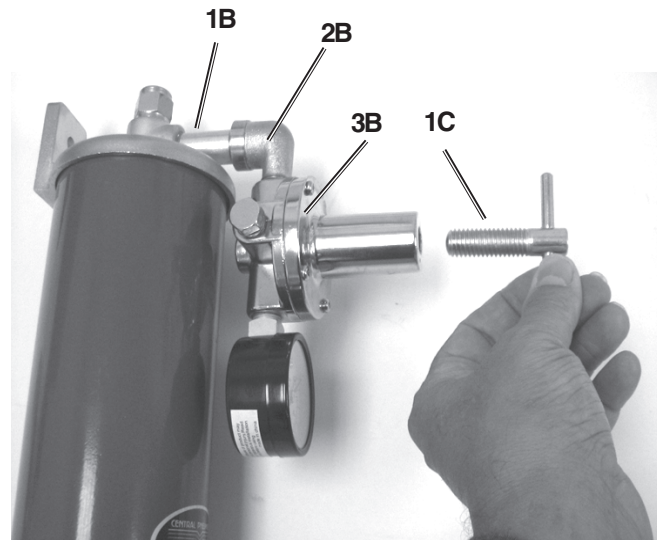
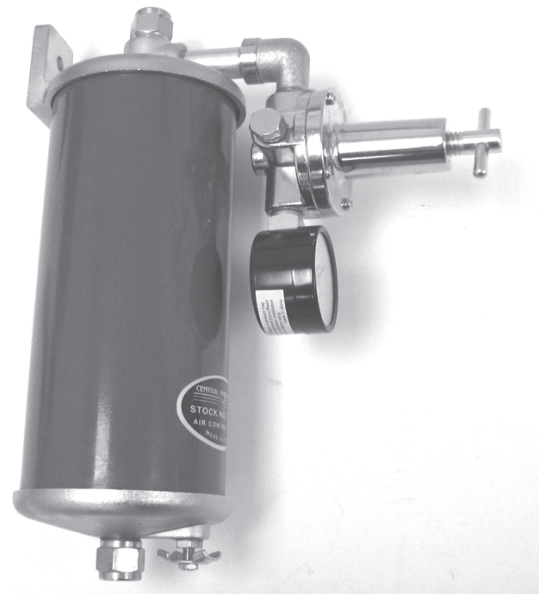

Figure 4
Figure 5
3. Thread the Regulator Handle (1C) into the Air Regulator (3B) until tight. See Figure 4. When assembly is complete, it should look like the photo in Figure 5 below.